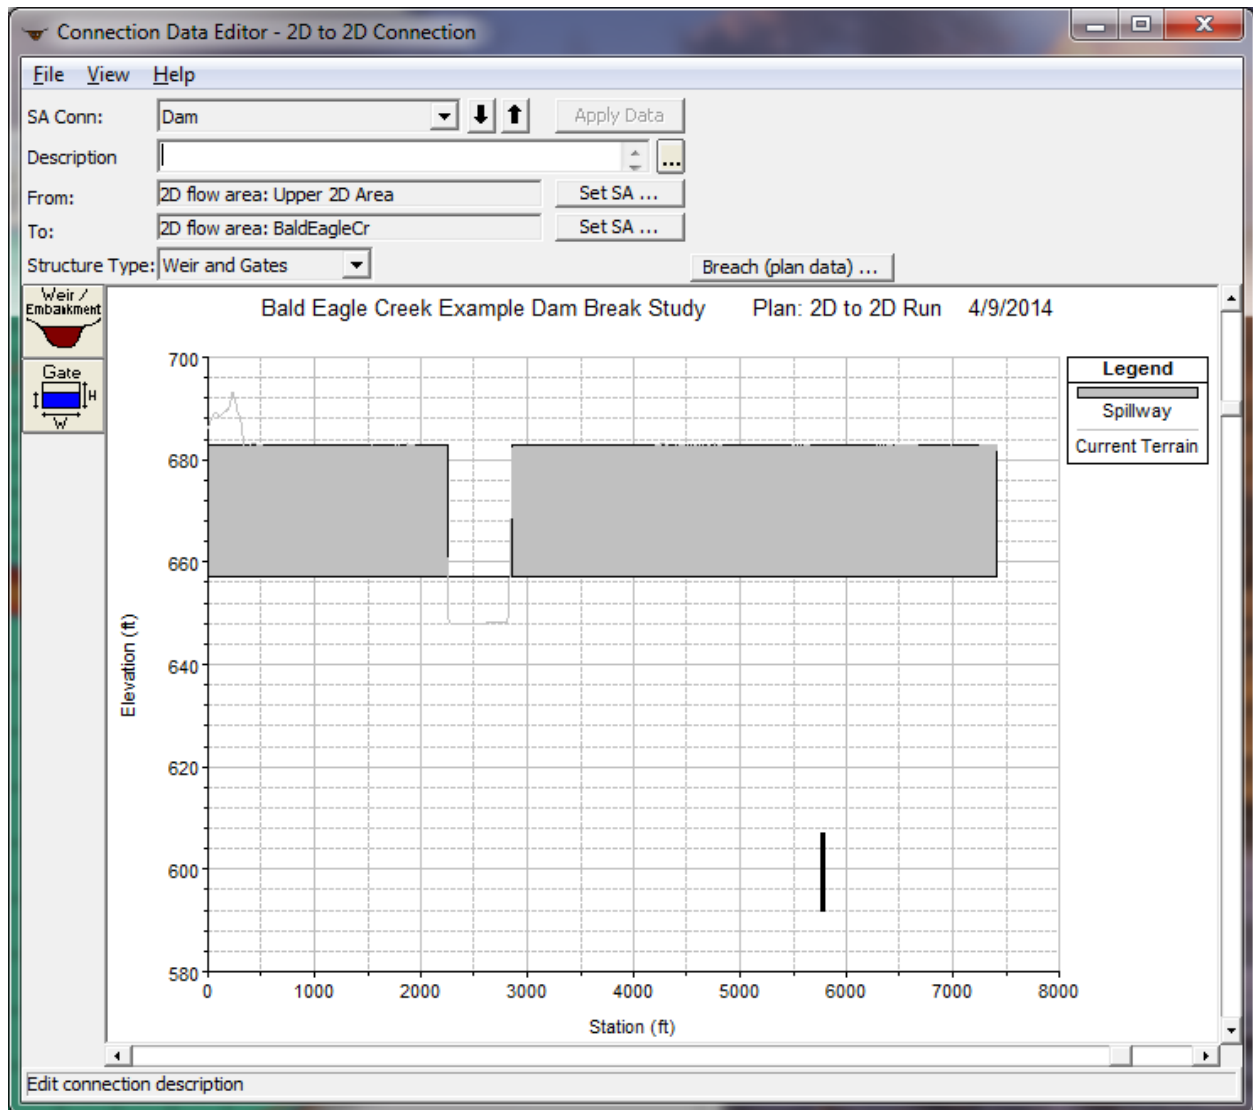

Figure 43. SA/2D Area Hydraulic Connection editor.
- Next, select the Storage Area/ 2D Flow Area Hydraulic Connection (**SA/2D Area Conn**) editor on the left panel of the Geometric data editor. This will bring up the editor shown in Figure 43.
- Enter all the hydraulic structure information for the connection. This will consist of a Weir/Embankment profile, and any additional hydraulic outlets, such as culverts, gates, etc... In the example shown in Figure 43, there is an embankment with an emergency spillway defined, and there are also low flow gates defined.